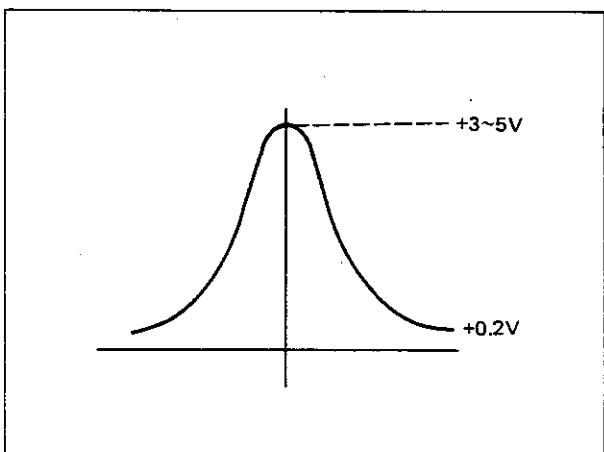

Fig. 6-21 Input Signal Waveform at P2-5
- (1) Perform the same initial settings as those for X axis adjustment.
- (2) Check that the signal waveform input from TR4132/4132N as shown in Fig. 6-21 is observed at Pin 5 of Connector P2.